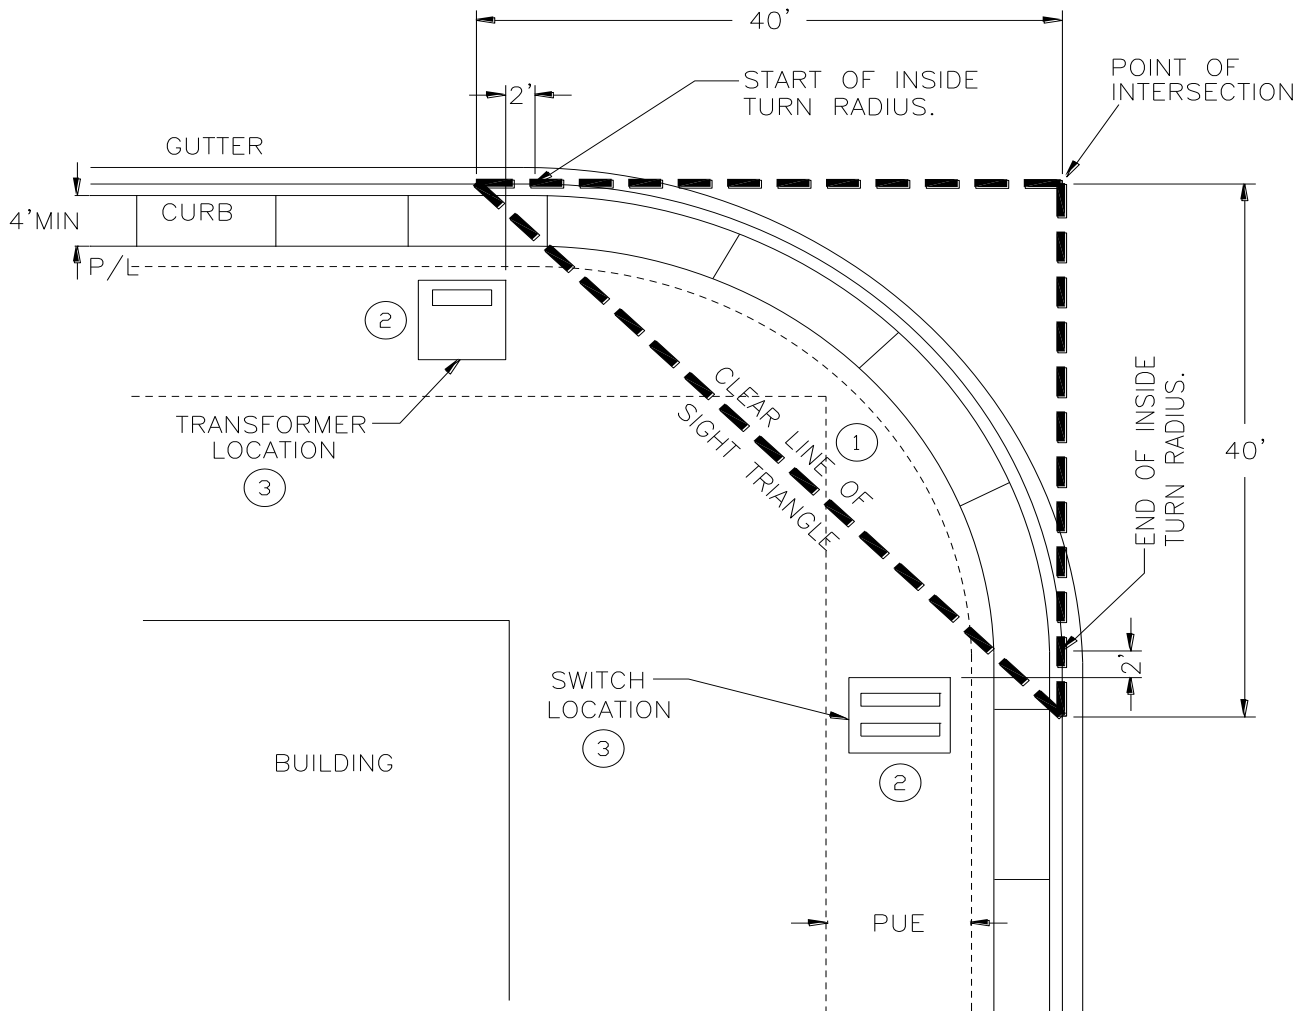

FIGURE 1
- A. Padmount transformers/equipment shall **not** be located directly in front of doors, stairways, beneath windows which can be opened, or where they will obstruct the vision of vehicular traffic. The front (doors) of padmount equipment shall open away from any structure. See Figures 1 - 7.